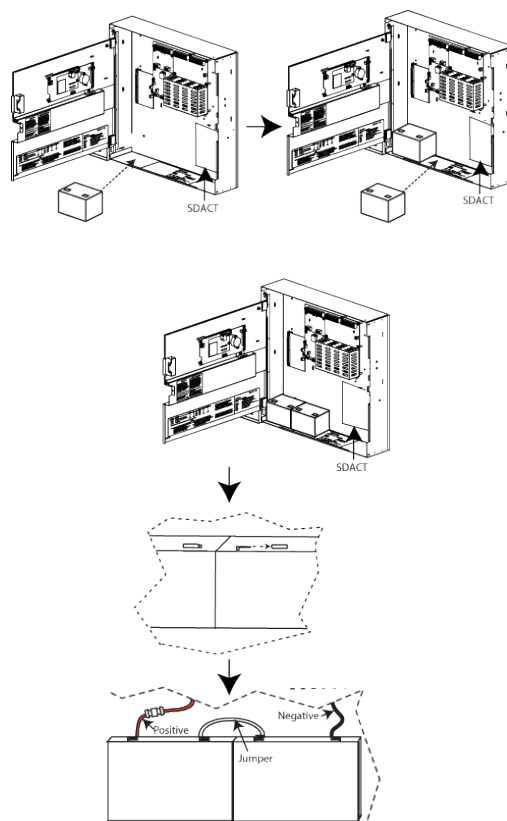

Fig 9: Power supply
- c. Wire the batteries in series such that you have 24 V. Use the white wire provided to bridge the batteries together, see Figure 9: Power supply on page 10.